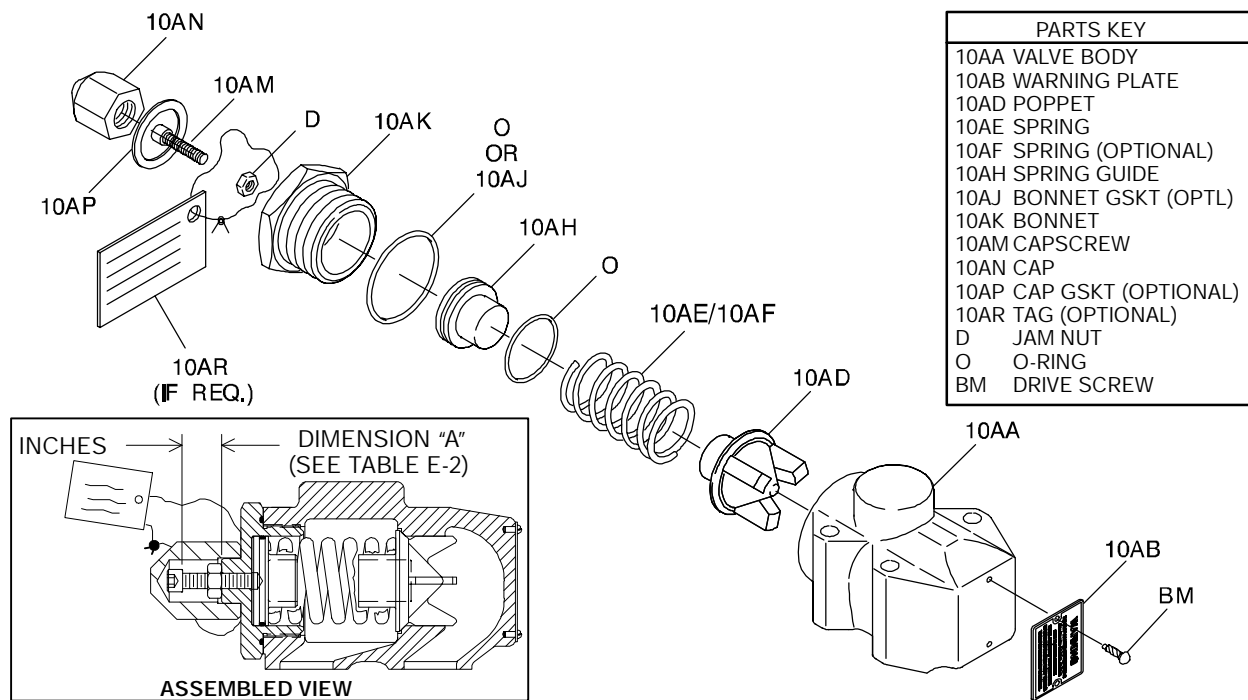

Figure E-5. S Hydraulic Size Pressure Relief Valve Assembly
(Figure E-5)
Install the jam nut (D) on the adjustment capscrew (10AM) and thread the capscrew into the bonnet until the desired height ("A", Figure E-5) is reached. Refer to the separate Parts List accompanying your pump and determine the spring option code (STD, 25D, etc.) for your pump. See Table E-2 and adjust the capscrew (10AM) to the proper "A" dimension for the desired cracking pressure.